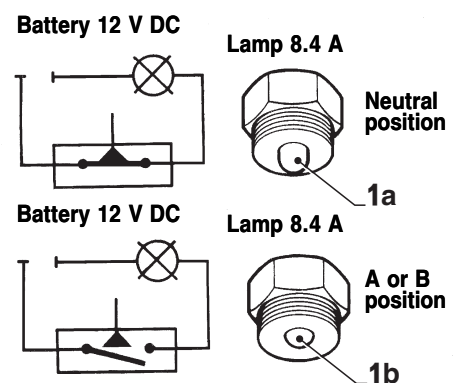

FIG. 5-3
With the pin (item 1a Fig. 5-3) extended you should get a reading, indicating a good switch.
Compressing the pin (item 1b Fig. 5-3) you should have "O" reading,
Connect the neutral safety switch with a light in series to a 12 volt battery. The switch is good when the light goes out when the center pin (item 1b Fig. 5-3) is compressed.